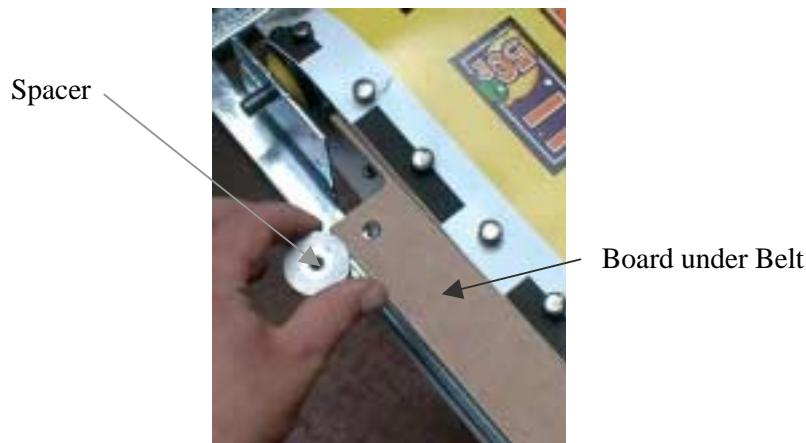

Figure 14 Spacer Removal
3. Using an indelible pen, mark the position of the 2 side belt adjusters. (Fig 14)
5. Using an 8mm spanner, loosen the rear support M5 bolt of the left and right belt tension adjusters. (See Fig 14).
- Fully slacken the belt adjusters. (Fig 14).